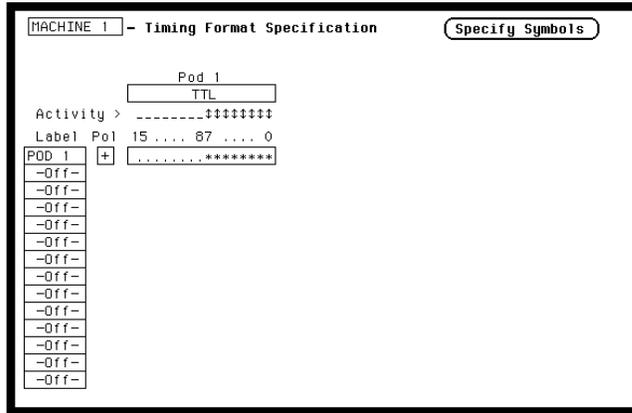

Figure 3-32. Glitch Test Timing Format Specification
4. In **State Format Specification** assign the lower eight bits of the pod under test to a label as shown in figure 3-32. Make sure the appropriate eight bits in the bit assignment field are turned on.